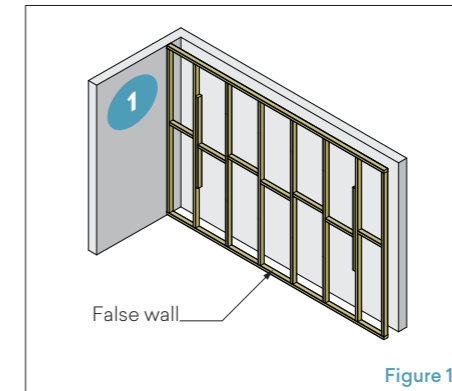

Figure 10
1. Erect a false wall frame adjacent to the rear wall. Fix this wall to the floor and the ceiling. (Figure 10)